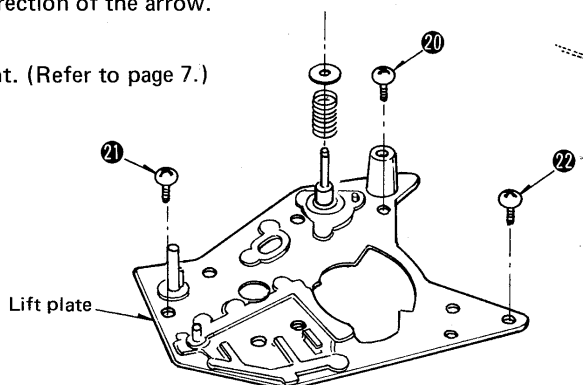

Fig. 10
• How to remove the lift plate (Fig. 10)
2. Remove the 3 setscrews [Fig. 10: 20 ~ 22] of the lift plate.